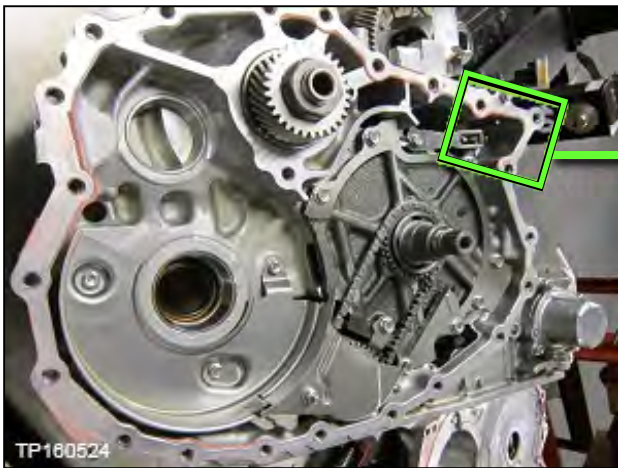
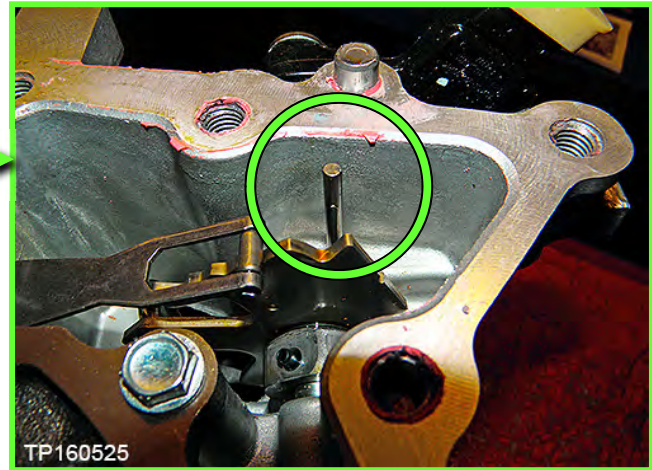

Figure 31
Figure 32
17. Note the location of the pin, as shown in Figure 31 and Figure 32.